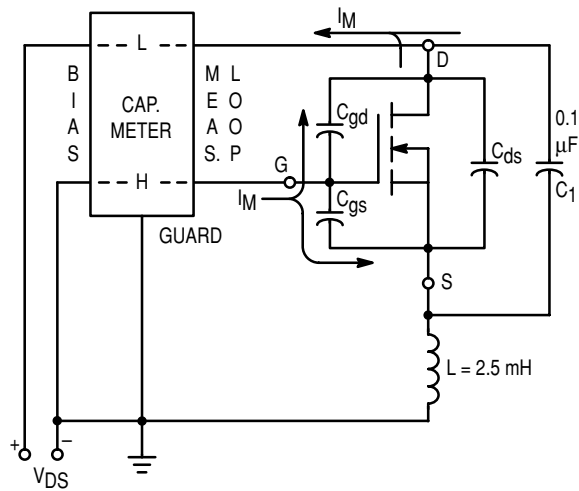

Figure 4.  $C_{ies}$  Test Configuration
**Device Capacitance ( $C_{ies}$ ,  $C_{oes}$ ,  $C_{res}$ )** Power IGBT devices have internal parasitic capacitance from terminal-to-terminal. This capacitance is voltage dependent as shown by the “Capacitance Variation” figure in the device’s data sheet.  $C_{iee}$  is the capacitance between the Gate-to-Emitter terminals with the collector terminal short-circuited to the source terminal for alternating current.  $C_{oee}$  is the capacitance between the Collector-to-Emitter terminals with the gate short-circuited to the source terminal for alternating current.  $C_{ree}$  is the capacitance between the Collector-to-Gate terminals with the source terminal connected to the guard terminal of a three-terminal bridge (Ref. IEEE No. 255). Figures 4, 5 and 6 show test circuits used for Power IGBT capacitance measurements.